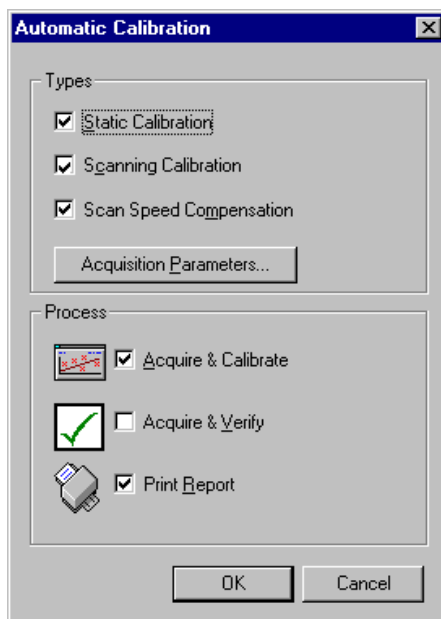

Figure 4-9 Automatic Calibration Dialog Box
2. Select **Calibrate > Start Acquisition** from the Calibration window. The Automatic Calibration dialog box appears (Figure 4-9).
Click **Acquisition Parameters** in the Automatic Calibration dialog box (Figure 4-9) to open the Calibration Acquisition Setup dialog box (Figure 4-10).
4. Click **Save** or **Cancel**. The Automatic Calibration dialog box appears (Figure 4-9).